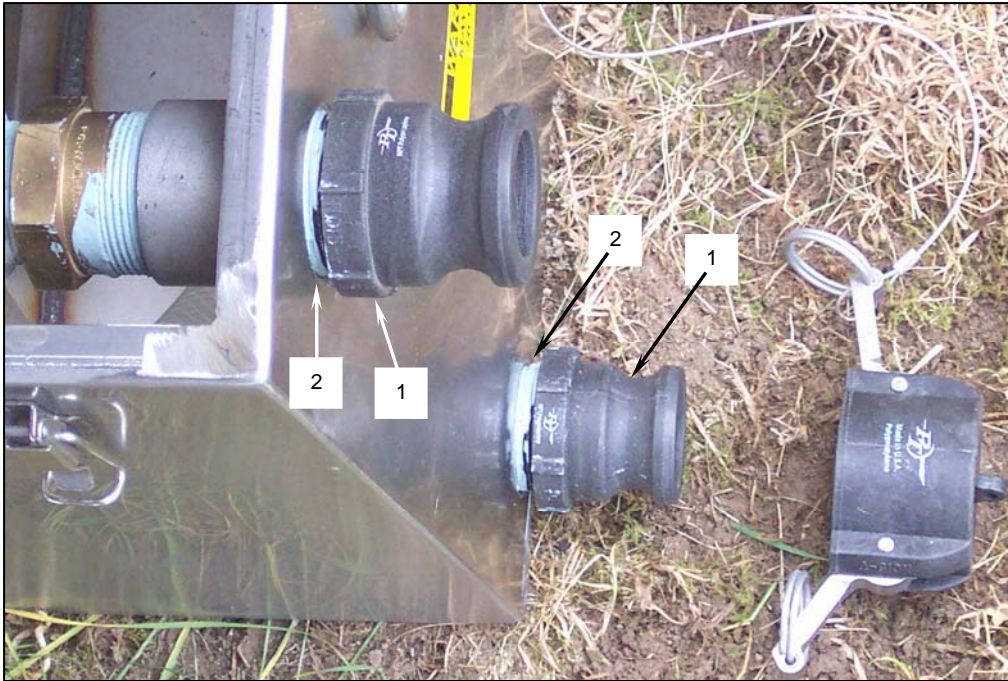

Figure 1. Replacing the Grease Separator Outlet Adapter.
2. Unthread the outlet adapter (**Figure 1, Item 1**) from the grease separator outlet (**Figure 1, Item 2**).
3. Apply sealing compound to the threads of the new outlet adapter (**Figure 1, Item 1**).
4. Thread the new outlet adapter (**Figure 1, Item 1**) onto the grease separator outlet (**Figure 1, Item 2**).